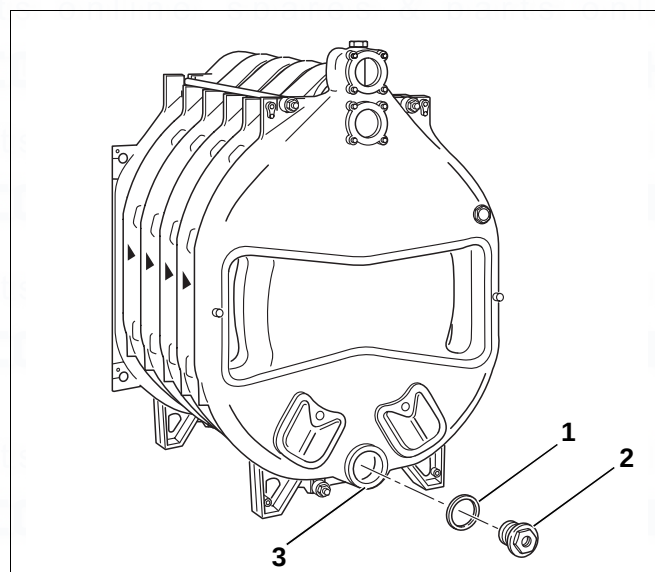

Fig. 21 Installation – flange
- ▶ Close off lower boiler hub (Fig. 21, [3]) at the front and rear. To do this, place corresponding seal (Fig. 21, [1]) on the relevant boiler hub and seal-in the relevant sealing plug. In this case, the sealing plug with the $\frac{3}{4}$ " tapped hole for the fill and drain connection (Fig. 21, [2]) is mounted on the rear of the boiler.